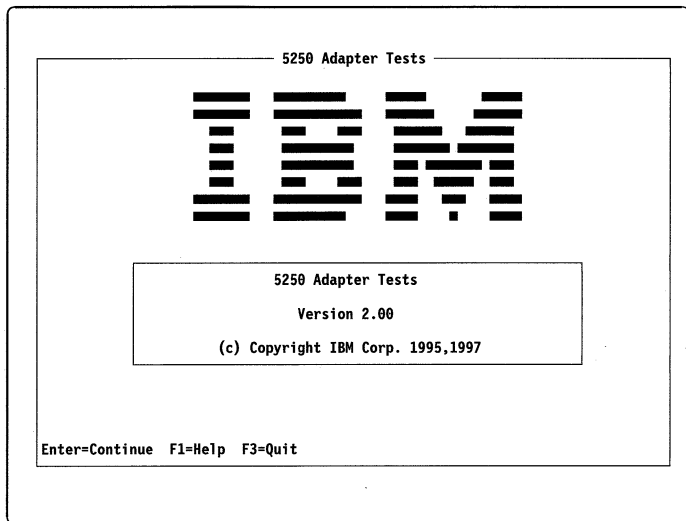

Figure 2. 5250 Emulation Adapter Tests Screen
1. Insert your backup copy of Support Diskette #2 in the A: drive and power on your PC. The 5250 Emulation Adapter Tests screen, similar to the one shown in Figure 2 on page 10, appears.